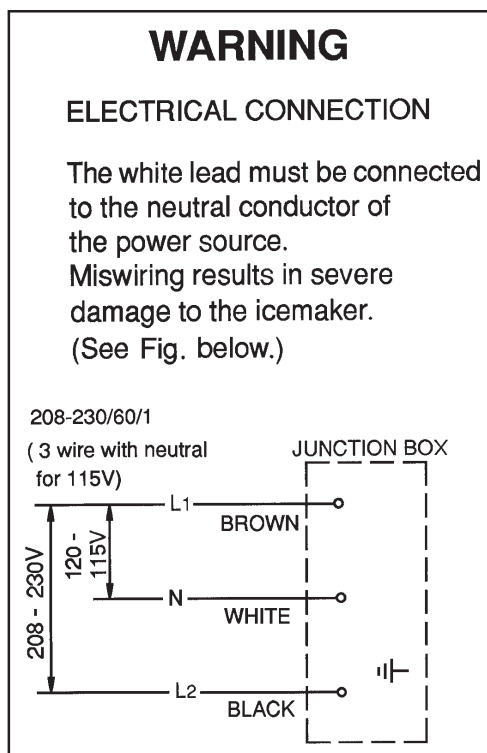

Fig. 8a
4. Electrical connection must be made in accordance with the instructions on the "WARNING" tag, provided with the pig tail leads in the junction box. See Fig. 8a and 8b.
- On single phase models, the white lead must be connected to the neutral conductor of the power source. **CAUTION! Miswiring may result in severe damage to the icemaker.** See Fig. 8a.